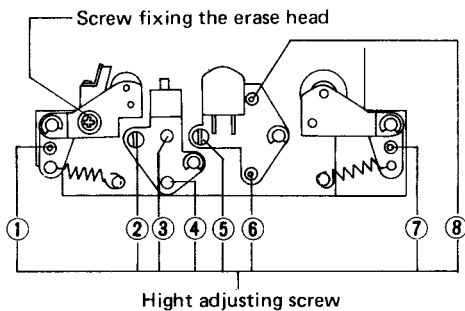
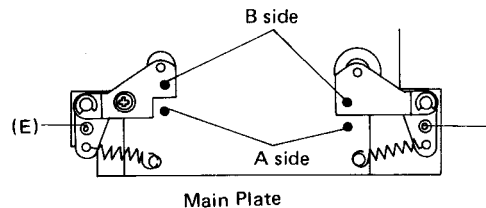
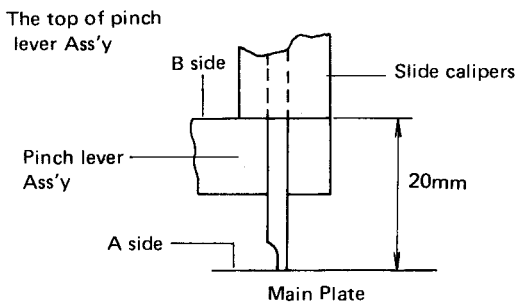
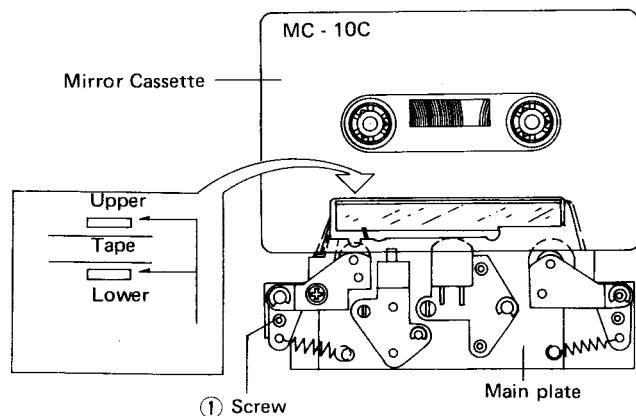

Fig. 8.
Fig. 9.
Fig. 10.
Fig. 11.
When any of the adjustment screws shown in Figure 8 are turned, the screw securing the erase head is loosened, or the tape motion mechanism is repaired, adjustment is required as follows.
A. The pinch lever height adjustment screws (① or ⑦) are adjusted so that the gap between side A and side B (See Figure 9) is 20 mm (See figure 10). Be sure the tip of screw (E) is in the convex. (See Figure 9).
- (1) Insert test tape MTT-121 in cassette mechanism.
- (2) With finger move main plate assembly so that tape heads enter cassette windows. (See Figure 11).
- (3) Adjust the play head with adjustment screws ⑥, ⑧, and ⑤ in that order so that the head is centered in the cassette window, and outputs (left and right) are at a maximum.
- (4) Remove MTT-121 and insert MC-10, mirror cassette check the movement of the tape in the mirror. (See enlargement in Figure 11). At this time, if the tape touches the tape guide of the erase head, adjust screw ①, (See Figure 11), so that the tape is no longer touching the tape guide. After adjustment of screw ①. Repeat steps 1 through 3.
- (5) Insert test tape LCT-308-M and peak left and right outputs by adjusting screws ⑥, ⑧, and ⑤ in that order. The difference between channels should be within 1.5 dB of each other.
- (6) Insert the tape MTT-114 and adjust screw ⑤ (See Figure 8) for maximum output of both channels. Connect oscilloscope to each channel and make sure both channels are in phase with each other.
- (7) Again, check the erase head tape guide with the MC-10C, mirror with cassette. For adjustment is necessary, adjust with screw ① (See Figure 11) and repeat steps 1 through 6.
C. Adjustment of record head is as follows: Insert blank tape (AC-511) and record 8 KHz signal by depressing test signal switches, monitor switch in "tape" position. Adjust screws ③, ④, and ② in that order, (See Figure 8) for maximum output signal on each channel.